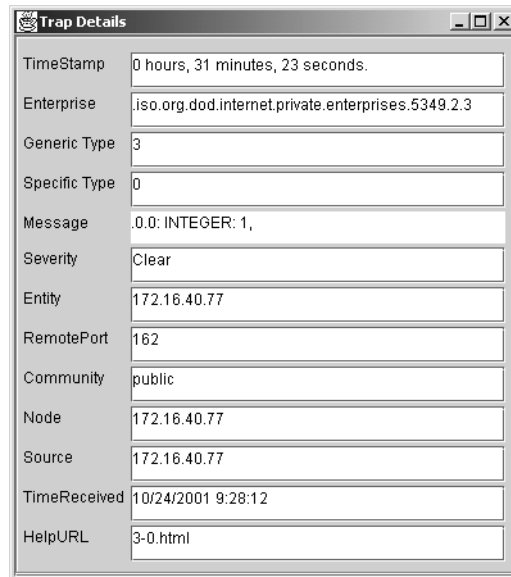

Figure 28 ManageEngine Trap Details window of TrapViewer
- The details of the traps can be viewed by clicking the *Trap Details* button or right click the trap in the trap table and select the option *View Trap Details*. figure 28 show the screen of such a trap details window.